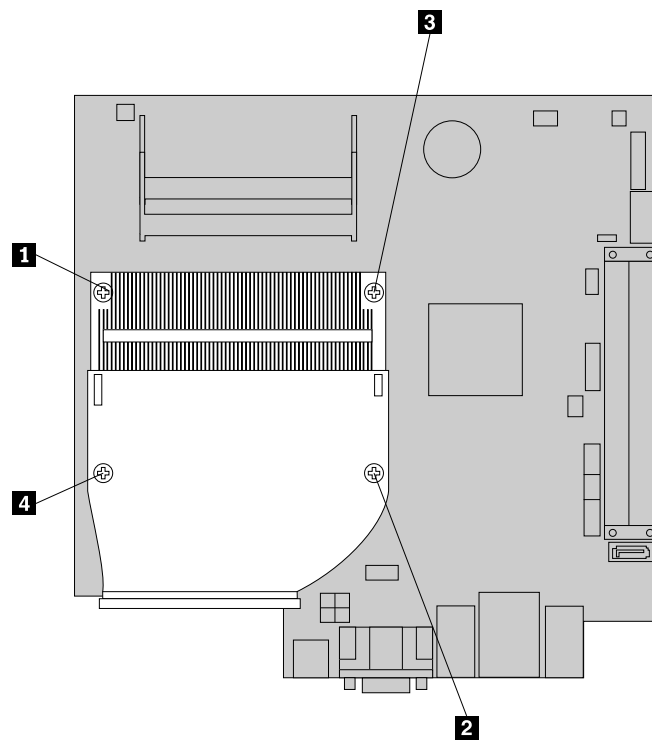

Figure 20. Removing the heat sink
7. Follow this sequence to install the four screws to secure the new heat sink, as shown in Figure 20 “Removing the heat sink” on page 37: